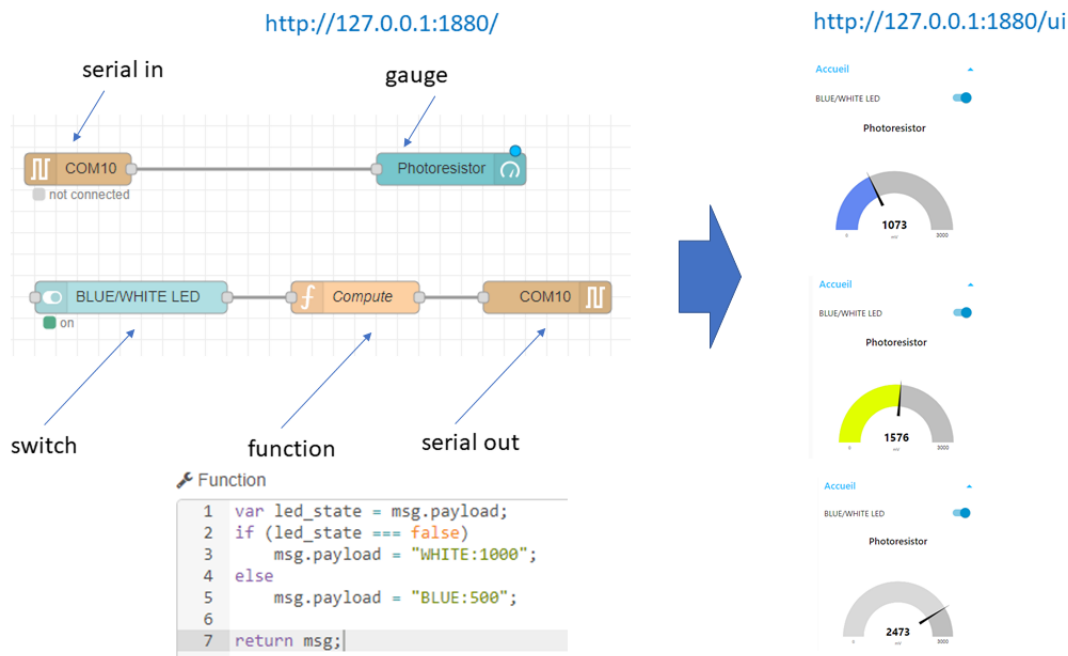

FIGURE 4.3 – Node-RED application.
9. Import the provided « nodered-v1.json » file to Node-RED (Top Right Menu : Import and select the file) as depicted in the figure 4.3. This file is the « low-code » program of Node-RED. Look at the contents of the *Compute* function. The code is written in JavaScript.